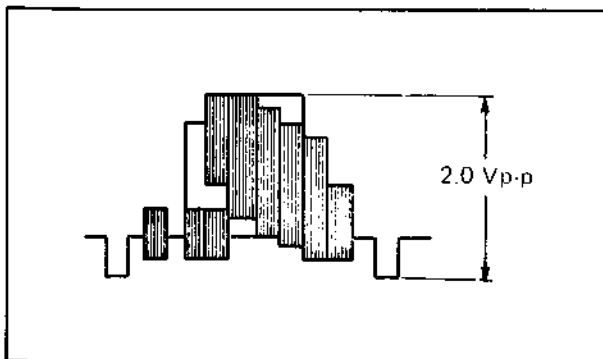

Fig. 6-24 Video output
3. Adjust R37 (P. B. OUT LEVEL) so that the level of TP-8 is 2.0 Vp-p as shown in Fig. 6-24.